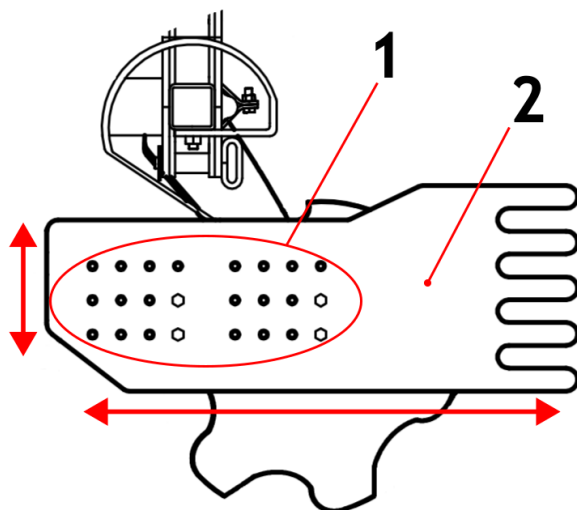

Figure 34 Adjusting the position of the side screen (1 - holes for adjusting the position of the side screen relative to the holder, 2 - side screen)
The **side screen** should be set and locked with a screw at such a height that it is above the soil surface and not exposed to the impact of stones and the hanging of crop residues. If necessary, it should also be moved forwards or backwards (remounting at the holes (fig. 34, item 1) so that it retains the soil thrown up by the outermost front disc and compacts the furrow behind the outermost rear disc.